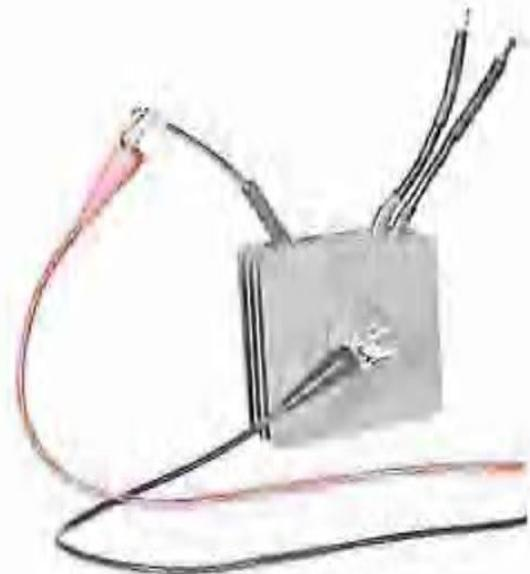

Figure 28
3. Connect **small red test lead** to positive lead on rectifiers. Figure 28.
4. Connect **small black test lead** to ground stud or lead on rectifier. Figure 28.